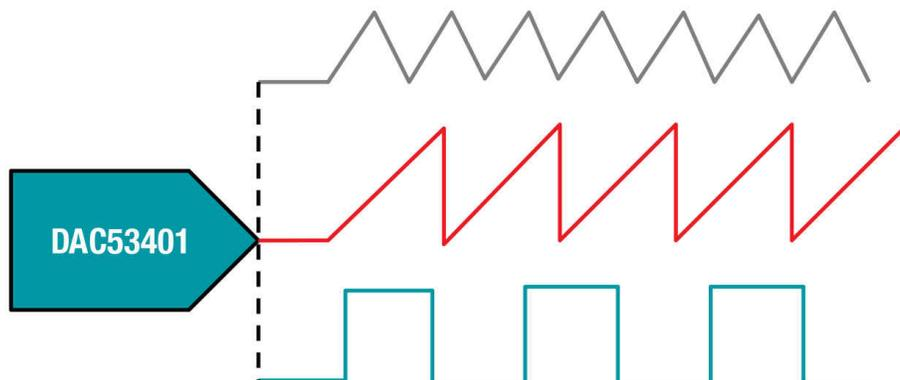

Figure 9. DAC53401 Generating Multiple Waveforms
- Waveform generation** In some systems, you need to generate certain waveforms to produce tones (like in medical applications) or create LED breathing effects (like in lighting applications). DACs like the DAC53401 come with a feature called continuous waveform generation, enabling you to generate triangle, square, trapezoidal or sawtooth waves, as shown in Figure 9.